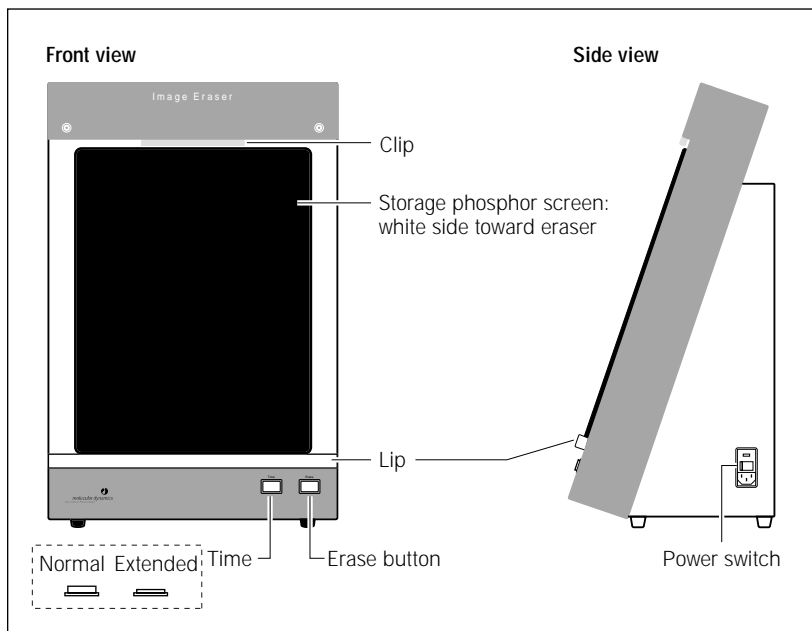

Figure 5-1. Erasing the storage phosphor screen.
2. Place the screen on the eraser as shown in figure 5-1. Rest the screen on the lip of the eraser. To erase two small screens at once, suspend an unmounted screen from the clip at the top of the eraser.
3. Set the eraser time by pressing the **Time** button. Figure 5-1 shows the button positions for Normal (out) and Extended (in). Select—